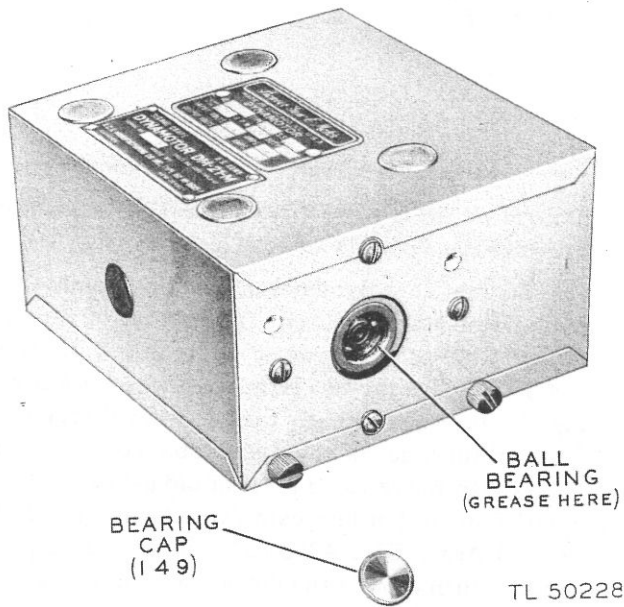

Figure 28—Dynamotor lubrication
(3) To lubricate dynamotor bearings, remove the dynamotor assembly from the bottom of the amplifier (the amplifier must be removed from its case). Remove the two large flat end screws covering the bearings. Reach these screws through the holes in the sides of the dynamotor container (fig. 28). Clean the recessed holes of old grease, and add a small amount of lubricant (U S Army Spec 2-108 or U S Army Spec AXS-637; see preceding paragraph); then replace the flat screws and replace the dynamotor. It is not necessary to disconnect any wires.